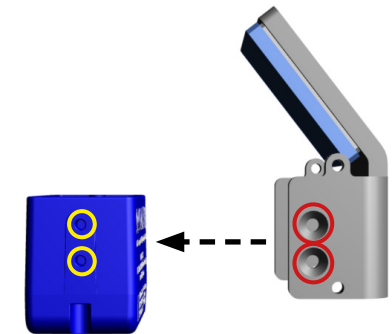

Fig. 1 - Aligning the holes
1. Mount the mirror bracket onto the Matrix 120 aligning the bracket and reader mounting holes highlighted in Fig. 1.